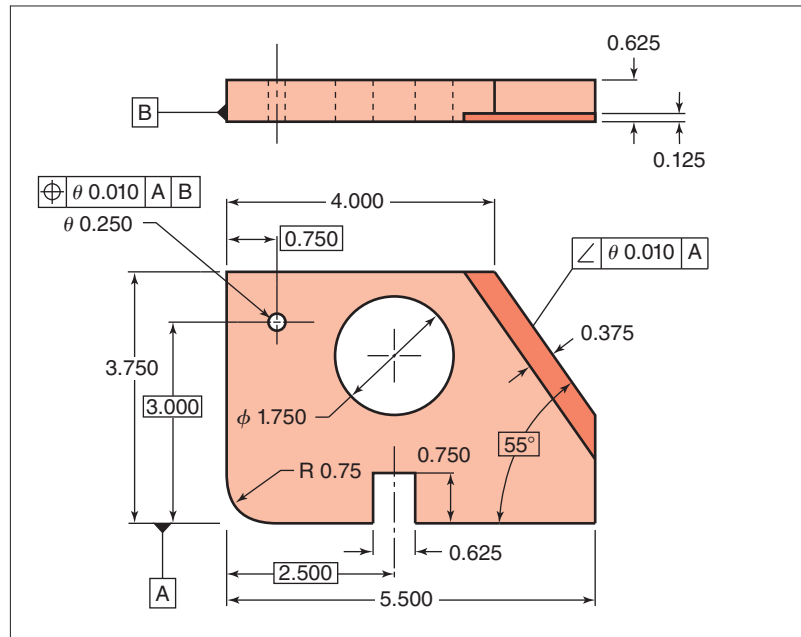

Figure 7-60 All process measuring test.
Your instructor or another skilled machinist may have differing opinions or expanded ideas from those in the answers and that too is to be expected. Your instructor may also have real parts similar to those shown in Fig. 7-60.
13. If the surface of the hole in Fig. 7-60 was given a finish callout of $32 \mu\text{In}$, would it be possible to achieve using a standard drill? (LO 7-5)
14. The position tolerance for the 0.250-in.-diameter hole applies to its (A) surface, (B) centerline, (C) axis?